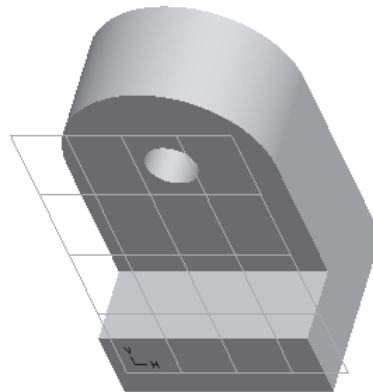

Figure 5-63 The highlighted datum plane
- Create the third feature on an offset plane, refer to Figures 5-63 through 5-68.
4. Choose the **OK** button. The datum plane named **DTM1** is created, as shown in Figure 5-63.